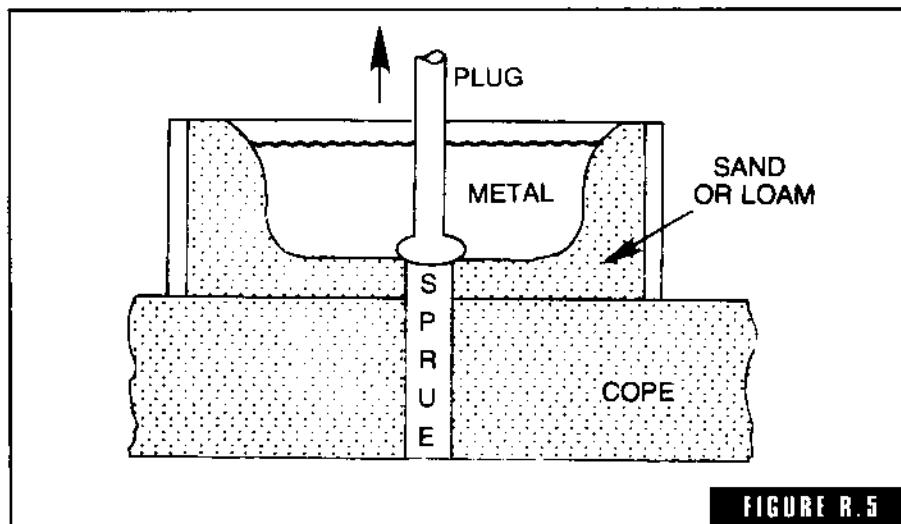

FIGURE R.5
**reservoir** A basin on top of a mold designed to hold sufficient metal to pour the mold. It is opened to the sprue by a plug, similar to a bottom pour ladle (Fig. R-5).